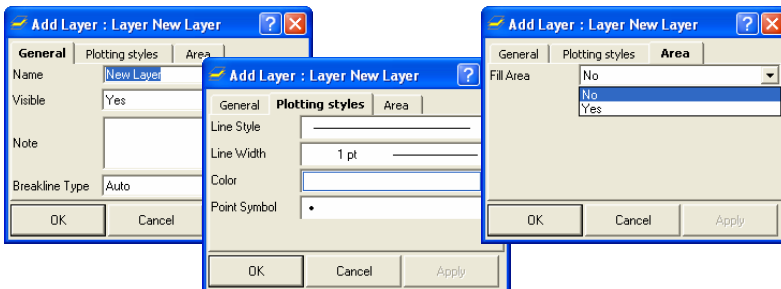

Figure 4-33. Enter and Select Layer's Properties
1. Enter the following general information for the layer in the *General* tab (Figure 4-33):
2. Select the following plotting information for the layer in the *Plotting Styles* tab (Figure 4-33):
3. Select Yes to fill the areas of this layer (Figure 4-33).